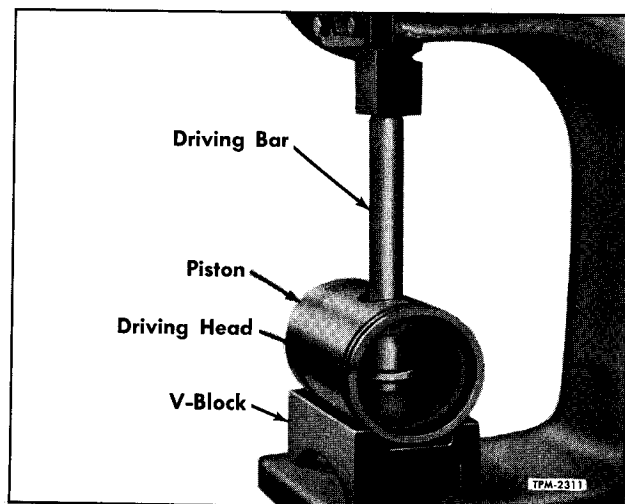

Figure 44—Installing Pin Bushings in Piston
Piston pin bushings may be removed from the piston with remover and replacer tools, as illustrated in figure 44, and in the following manner.
1. Place piston on holder, so that bushings align with hole. Install remover into bushing at inside of piston, then install handle through opposite bushing and into remover. Refer to figure 44.